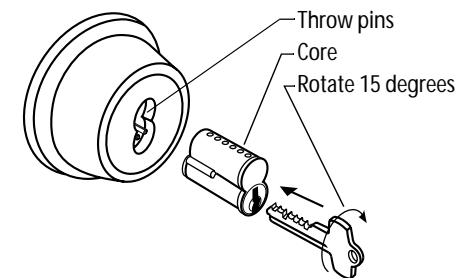

Figure 10 Installing the core on standard deadbolts
- Put the control key into the core and turn the key 15 degrees clockwise as shown in Figure 10.